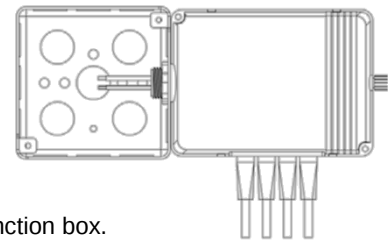

Figure 1
- DO NOT DISCARD THE MAC ADDRESS LABELS INCLUDED WITH THE PRODUCT. SEE STEP (5) BELOW.
- Mount the room controller's enclosure to a 1/2" knockout opening of an electrical junction box. Secure it to box tightening the included locknut. (See Figure 1)